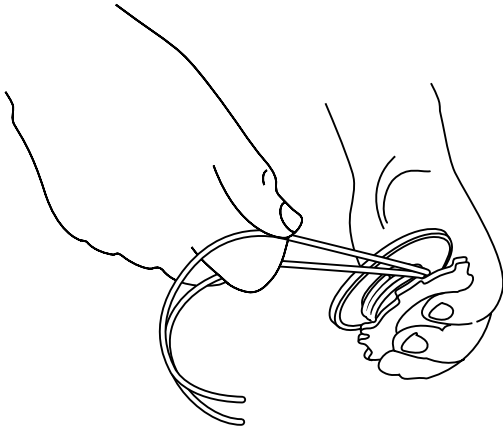

Fig. 26
7. Wind the lines in tight even layers, onto the reel (Fig. 26). Wind the line in the direction indicated on the inner reel. Place your index finger between the two lines to stop the lines from overlapping. Do not overlap the ends of the line.